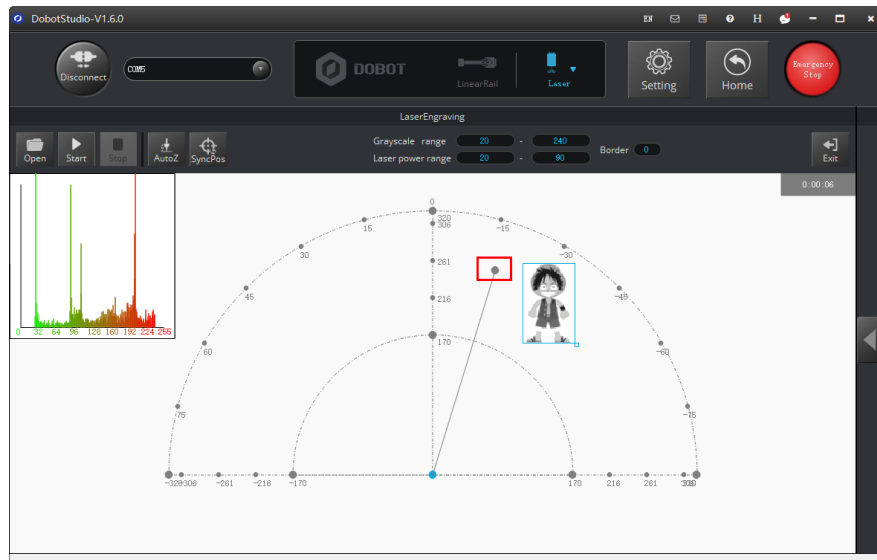

Figure 5.102 The point corresponding to the laser kit of the robotic arm
- The point marked by a red box, as shown in Figure 5.102, corresponds to the position of the laser kit of the Dobot Magician. This point changes its position only within the annular area when the robotic arm moves.